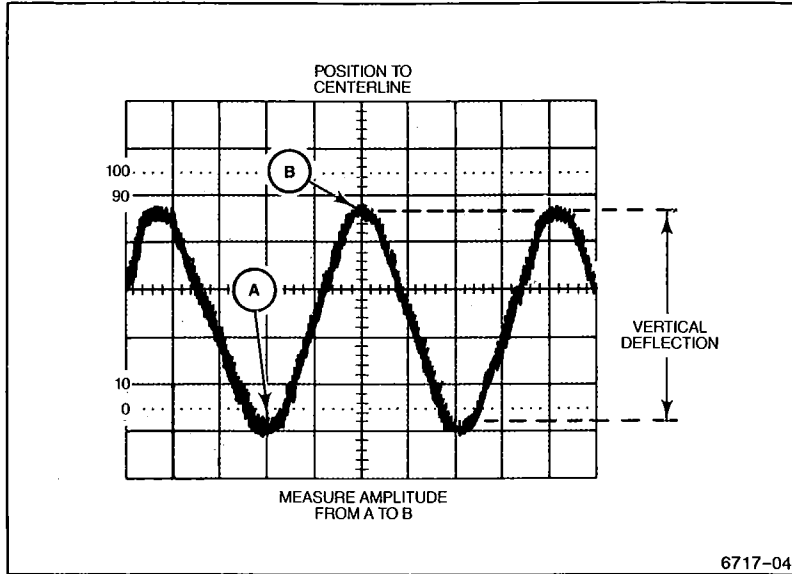

Figure 3-1. Measuring peak-to-peak voltage of a waveform.
5. Vertically position the display so that the negative peak of the waveform coincides with one of the horizontal graticule lines (see Figure 3-1, Point A).
6. Horizontally position the display so that one of the positive peaks coincides with the center vertical graticule line (Figure 3-1, Point B).
7. Measure the divisions of vertical deflection from peak-to-peak (Figure 3-1, Point A to Point B).
EXAMPLE. In Figure 3-1, the measured peak-to-peak vertical deflection is 4.4 divisions using a 10X attenuator probe with the VOLTS/DIV switch set to 5V (10X PROBE).